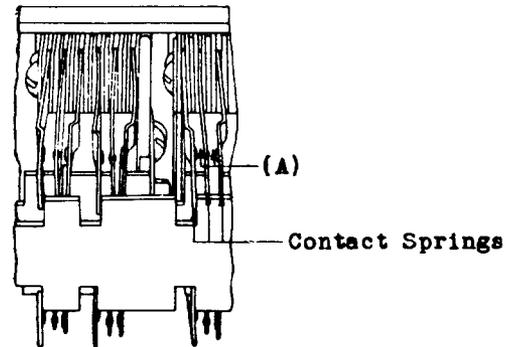

Fig. 8
(c) 232 Type Relays - Fig. 8 (A) - The separation between any pair of contacts that are normally open, shall be: